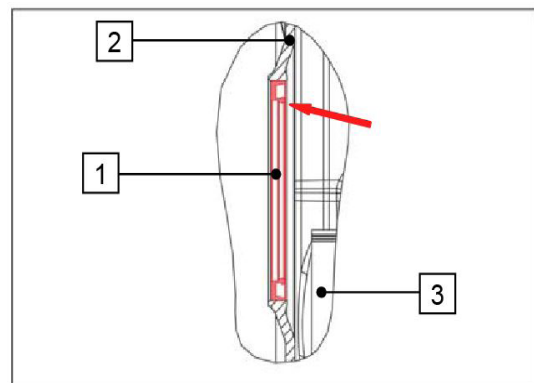

Figure 647
**Installation position is on the shaft seal. See Figure 647**